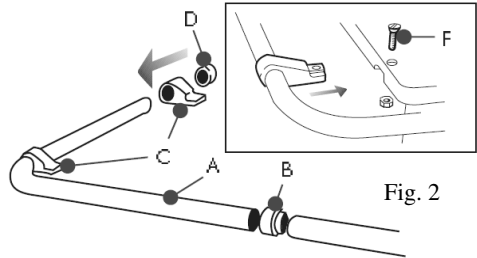

Fig. 2
**ENSEMBLAJE DEL PASAMANOS Fig.2**